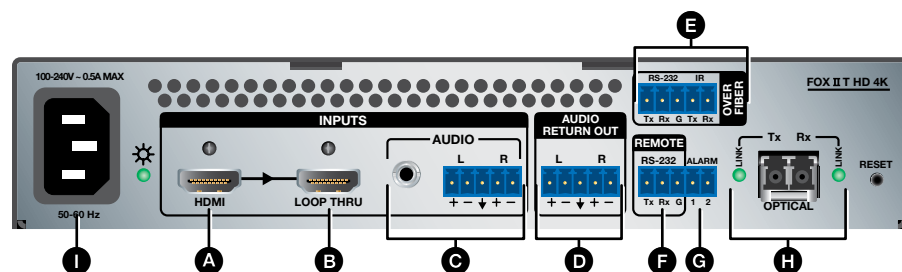

Figure 2. FOX II T HD 4K Transmitter Rear Panel Connectors
- A HDMI input port** (see figure 2 on the previous page) — Connect a digital video input to this HDMI connector. The transmitter also accepts embedded digital audio on this connector.
H Fiber optic ports and LEDs (see figure 2 on page 5)—